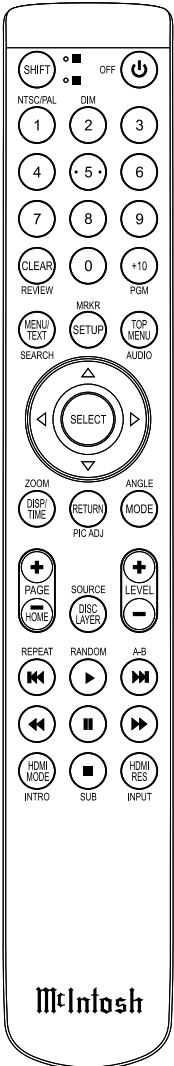

Figure 10
- 1. Press the SHIFT Push-button and then the RANDOM Push-button twice to access the Program Mode. Refer to figures 10, 24 and 29.